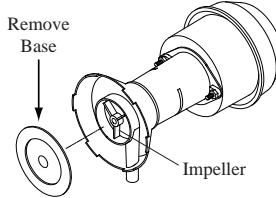

Fig. 10
- Cleaning pump.** Cleaning the pump is necessary once a year at start-up. For your safety, disconnect from power source and unplug pump. Remove the pump from the mount bracket. Remove the base of the pump (Fig. 10). Clean the pump and turn the impeller to ensure free operation. Remove the pump spout and check for any blockage. After cleaning, reinstall the base onto the pump. Reattach the pump to the mount in the cooler to ensure that the pump will not overturn. Do not forget to replace the spout and water delivery tube onto the pump outlet. The pump has automatic reset thermal protection. Pump will operate normal again after obstruction is cleared.